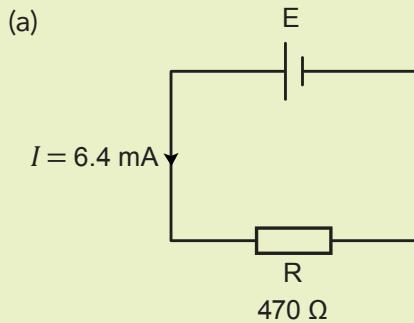

Figure 2.33
3. Calculate the e.m.f. of the batteries required to provide the currents in the circuits in Figures 2.33 and 2.34.